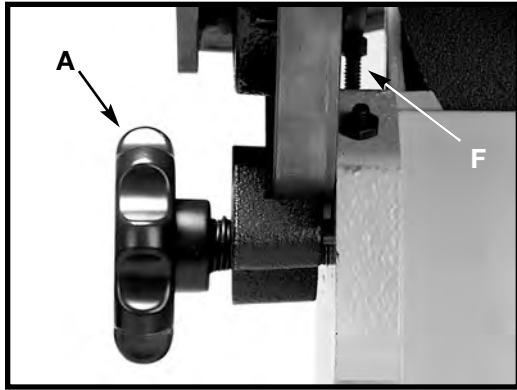
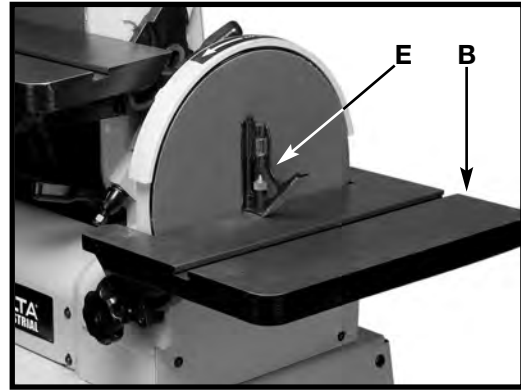

Fig. 32
Fig. 33
1. Loosen the disc table lock handle (A) Fig. 32, and move the table (B) Fig. 33 until it contacts the stop. Tighten the lock handle (A) Fig. 32.
2. Place a square (E) Fig. 33 on the table and against the sanding disc. See if the table is 90 degrees to the disc.
3. To adjust, loosen the lock handle (A) Fig. 32, and tighten or loosen the screw (F) Fig. 32 until the table is 90 degrees to the disc.
4. The stop (F) Fig. 32 ensures that the table can rapidly return 90 degrees to the disc after the table has been tilted.